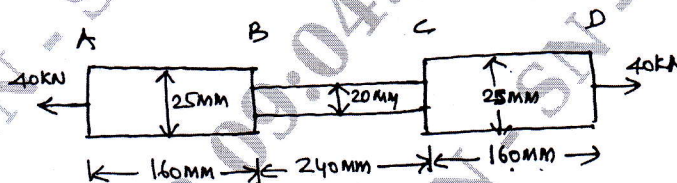

Fig.Q8(b)
b. A bar shown in Fig.Q8(b) is testing in universal testing machine. It is observed that at a load of 40 kN, the total extension of the bar is 0.285 mm. Determine the Young's modulus of the material.